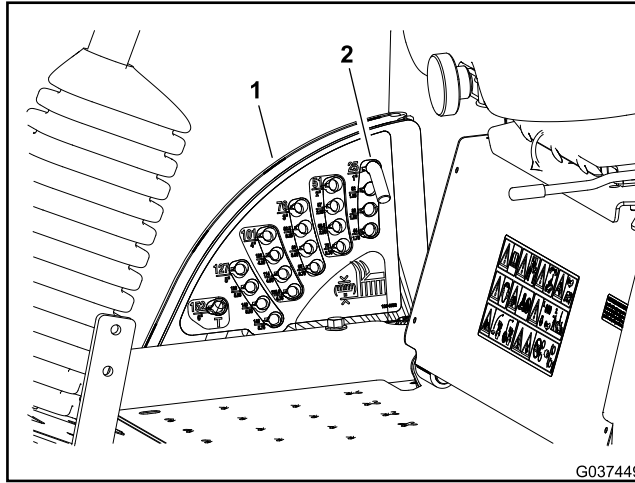

Figure 291
2. Note the location of the HOC pin in the HOC bracket for assembly purposes, and remove the HOC pin from the HOC bracket (Figure 291).